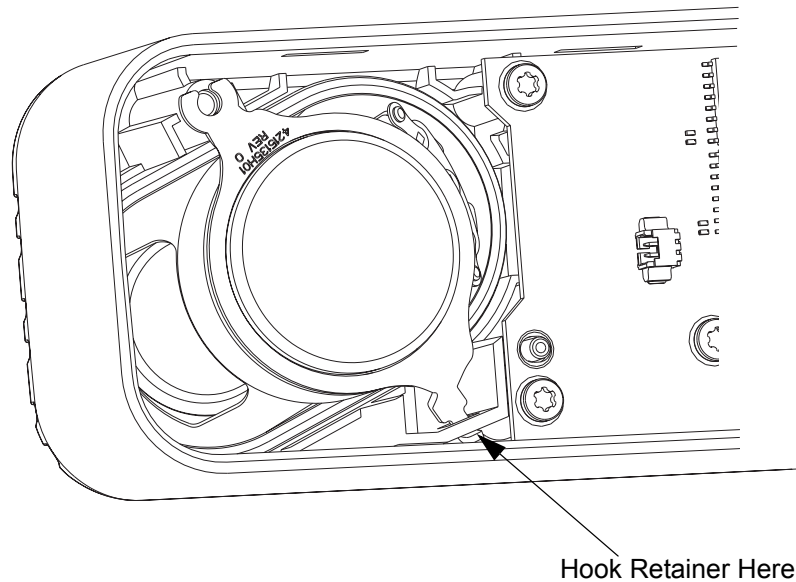

Figure 5-41 Speaker Retainer Assembly
- b. Hook one side of the speaker retainer into the control head assembly as shown in Figure 5-41.